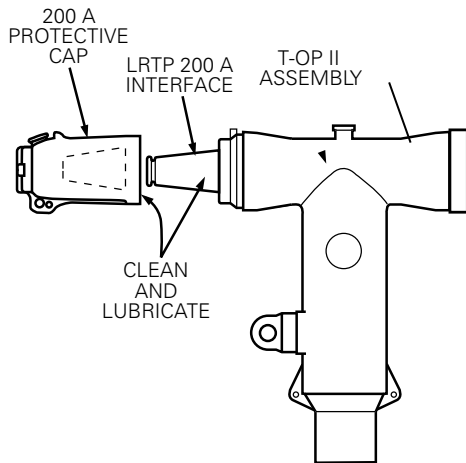

Figure 12. Line illustration of protective cap installation
- Clean and lubricate 200 A interface of LRTP and mating apparatus (i.e., protective cap, grounding elbow, M.O.V.E. arrester) with lubricant supplied. (Refer to Figure 12.)